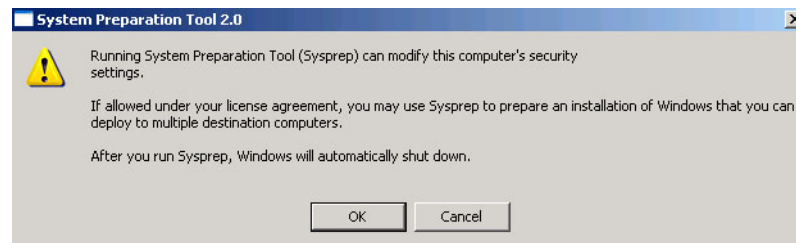

Figure 3-2 Warning message for security modification
- Next, run `C:\sysprep\sysprep.exe` and click **ok** on the warning message as shown in Figure 3-2.